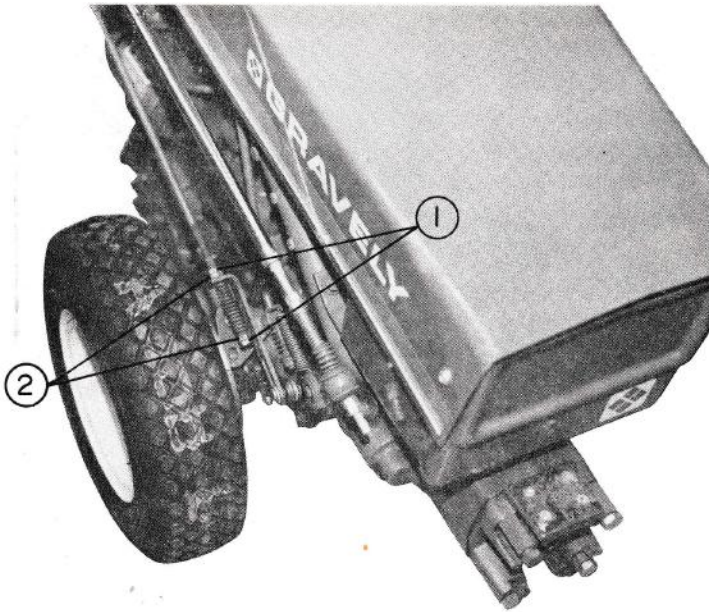

Fig. 17
1. Loosen the jam nuts on the right and left brake rods. See figs. 17 & 18.